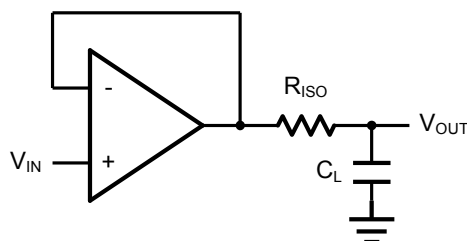
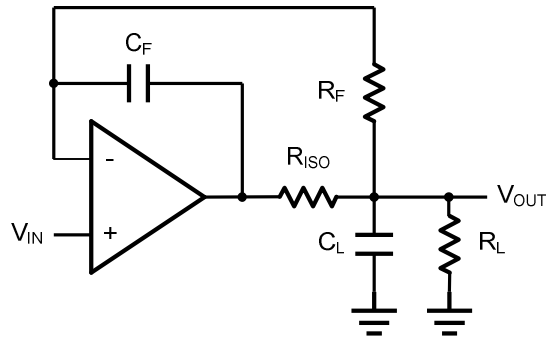

Figure 2. Indirectly Driving a Capacitive Load Using Isolation Resistor
Figure 3. Indirectly Driving a Capacitive Load with DC Accuracy
The HGV604X family is optimized for bandwidth and speed, not for driving capacitive loads. Output capacitance will create a pole in the amplifier's feedback path, leading to excessive peaking and potential oscillation. If dealing with load capacitance is a requirement of the application, the two strategies to consider are (1) using a small resistor in series with the amplifier's output and the load capacitance and (2) reducing the bandwidth of the amplifier's feedback loop by increasing the overall noise gain. Figure 2. shows a unity gain follower using the series resistor strategy. The resistor isolates the output from the capacitance and, more importantly, creates a zero in the feedback path that compensates for the pole created by the output capacitance.
The circuit in Figure 3 is an improvement to the one in Figure 2.  $R_F$  provides the DC accuracy by feed-forward the  $V_{IN}$  to  $R_L$ .  $C_F$  and  $R_{ISO}$  serve to counteract the loss of phase margin by feeding the high frequency component of the output signal back to the amplifier's inverting input, thereby preserving the phase margin in the overall feedback loop. Capacitive drive can be increased by increasing the value of  $C_F$ . This in turn will slow down the pulse response.